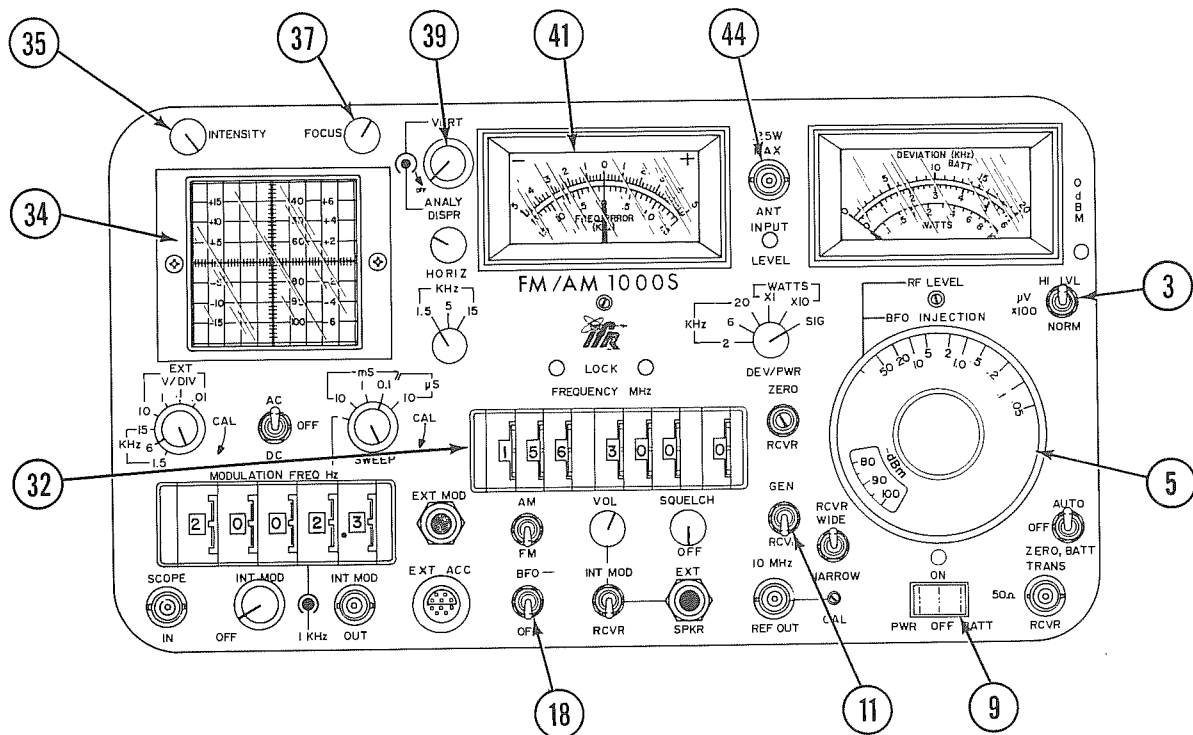

FIGURE 4-16 FM/AM-1000S CONTROLS APPLICABLE TO SPECTRUM ANALYZER OPERATION
1.	Set FM/AM-1000S controls for spectrum analyzer operation as shown in Figure 4-16, page 4-33.
2.	Connect external antenna to ANT INPUT Connector (44).
| 1. | Set FM/AM-1000S controls for spectrum analyzer operation as shown in Figure 4-16, page 4-33. |